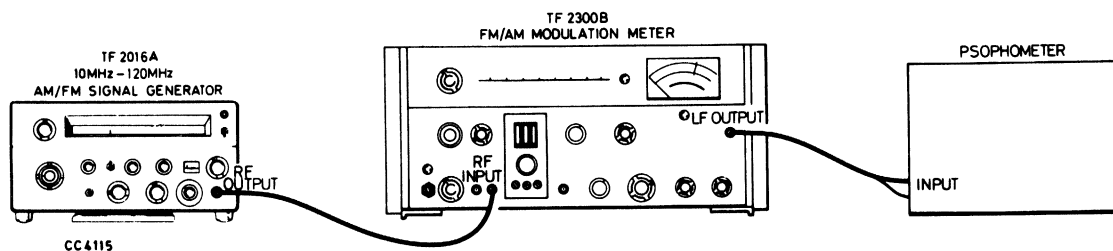

Fig. 4 Checking spurious f.m. on c.w.
- (1) Connect the test equipment as in Fig. 4.
- (2) Set the FUNCTION selector at CW, the CARRIER switch at ON and the MOD switch at ON. Then tune TF 2016A to 120 MHz and ensure that the pointer of the MOD/CARRIER meter is within the white box.
- (3) Set the FUNCTION selector at INT FM. Then adjust the SET MOD control to centre the pointer of the MOD/CARRIER meter.
- (4) Set the DEVIATION multiplier at x1 and the DEVIATION control at 20 kHz.
- (5) Set the psophometer controls as follows :